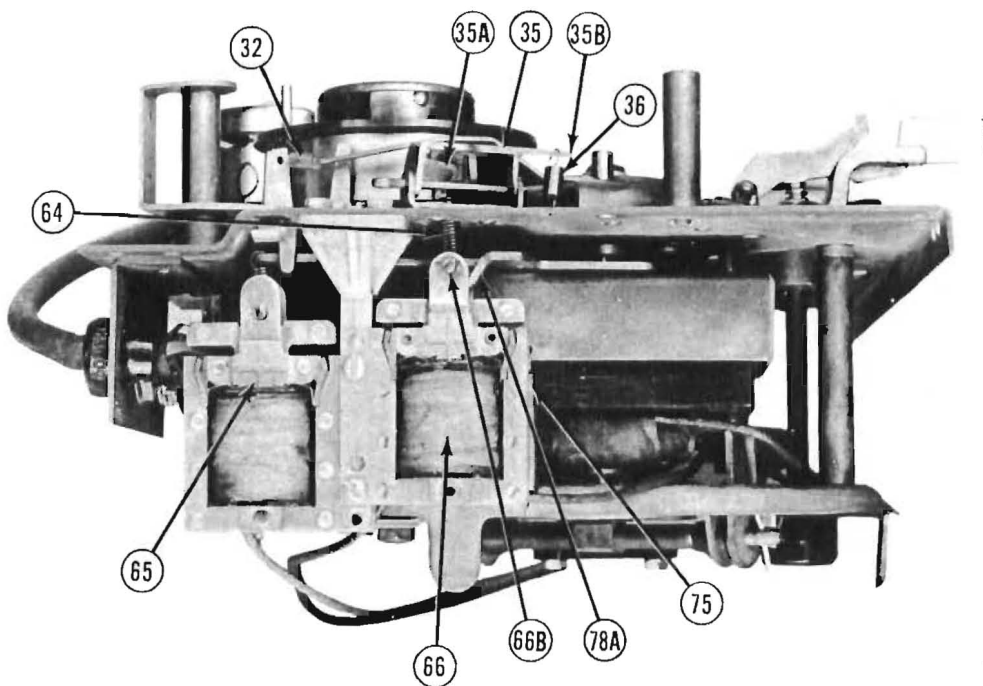

Figure 4
The height of the takeup spool (7) and supply chuck (20) are adjusted by loosening the lock nuts (71) and turning the set screw, see Figure 4. The brass collars (52), (Figure 4) are set on the shaft beneath the top plate bearings to restrict the upward movement of the drum and chuck. The collar on the takeup drum shaft (9) is set so that the drum (9) is free to turn but has practically no vertical play. If the collar on the takeup drum is set too low, vertical play may cause poor rewind of the wire onto the supply spool. If set too high the drum will not turn freely. The setting of the collar on the supply spool chuck shaft should provide approximately 1/16" vertical play of the chuck.
run it forward again, observing the way the wire winds on the takeup spool and adjust the head until the level wind is even on the drum. Location of screw (62A) is shown in Figure 4. This adjustment is made from the top of the mechanism. The screw is accessible through a hole in the baseplate just behind the recording head.